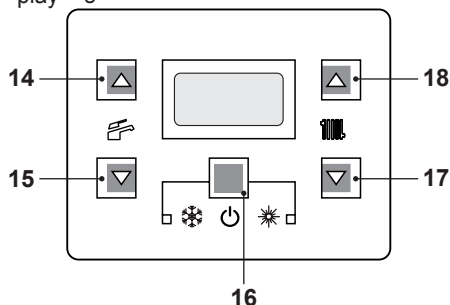

Fig. 7.10
- Press the 16 key for 2 seconds until both  symbols appear on the display Fig. 7.10.
- Switch off the boiler by pressing the 16 (Fig. 7.10) key for 2 seconds until the  symbol appears on the LCD display (Fig. 7.9).
- Press the 16 key for 2 seconds until both  and  symbols appear on the display Fig. 7.10.
Press the reset key on the boiler control panel 16 (Fig. 7.10) to reset its functioning.